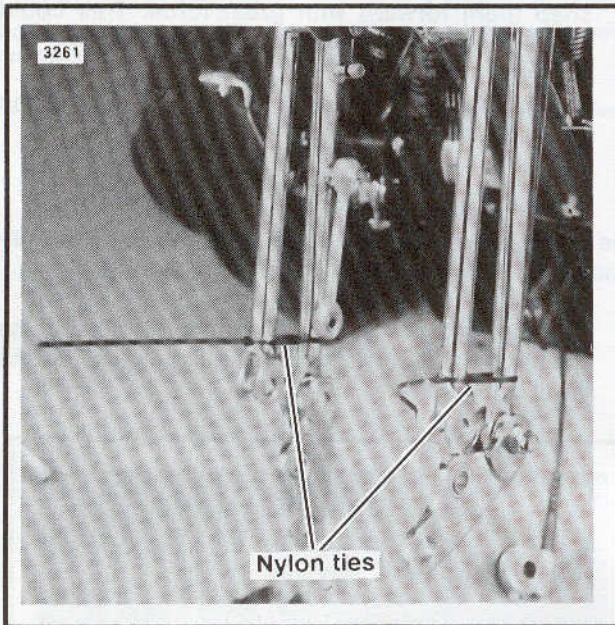

Figure 2-58. Nylon Cable Ties Secure Fork Legs
- See Figure 2-58. Use nylon cable ties around the rigid and spring fork legs to hold them in place.